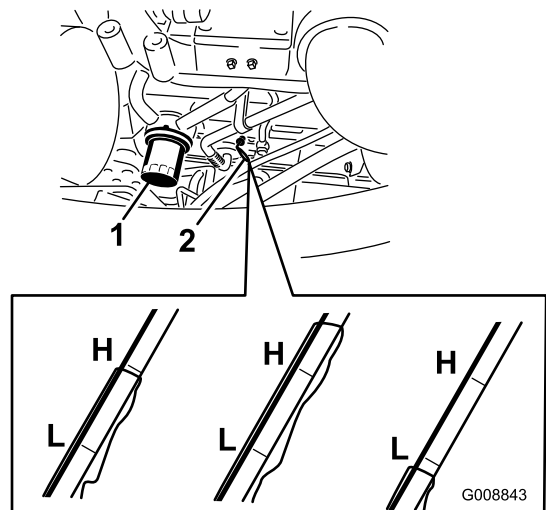

Figure 56
2. Remove the dipstick (Figure 56), wipe it clean, install the dipstick into the tube, and pull it out again. The oil level should be up to the Full mark.
2. Remove the oil filter (Figure 56). Apply a light coat of clean oil to the new filter seal before screwing it on. **Do not overtighten.**